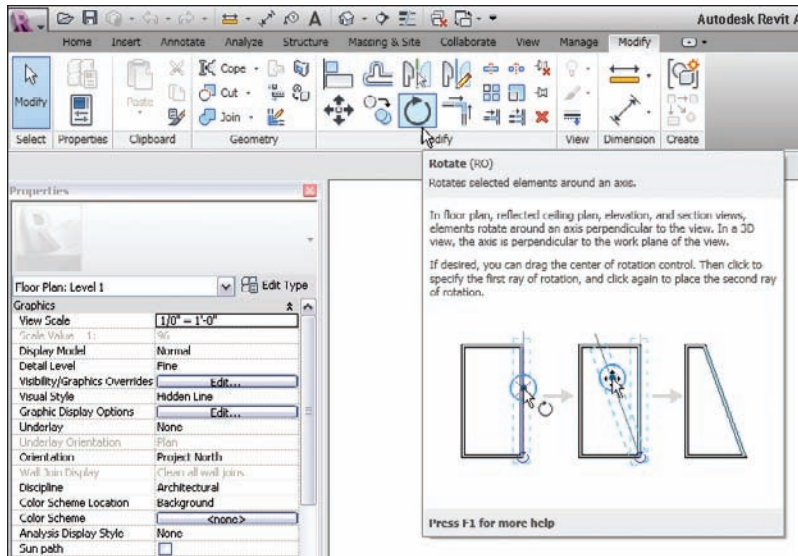

FIGURE 4.8 The Rotate command is active for the specific item you have selected.
2. On the Modify tab, select the Rotate button, as shown in Figure 4.8.